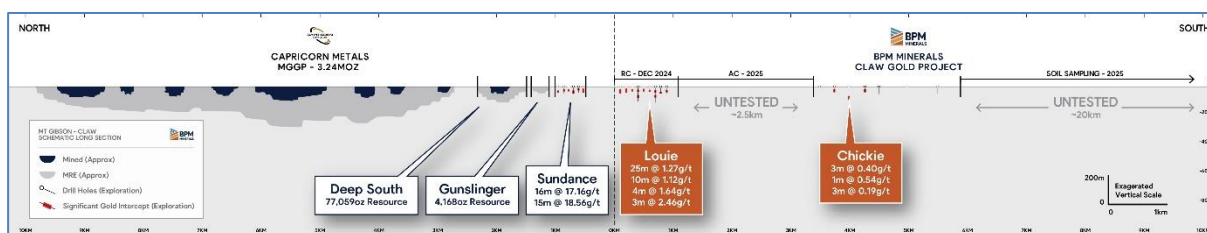

Fig. 1 - MGGP-Claw Project Schematic Long-Section
- **Assay results define a 600m high-grade core at Louie consisting of multiple >1g/t Au assays including holes finishing in mineralisation lying within a 1,000m long, >100ppb Au gold in regolith anomaly. (Figure 1)**
Approximately 2.5km of prospective, untested strike exists between Louie and Chickie. Considering both prospects have proven endowment and are on the same structure, this is clearly a zone that requires further drill testing. Planning is underway to test this zone using aircore drilling in 2025 once necessary approvals are granted. (Fig. 1 and 5). Environmental surveys have recently commenced with heritage surveys scheduled for mid-November 2024.